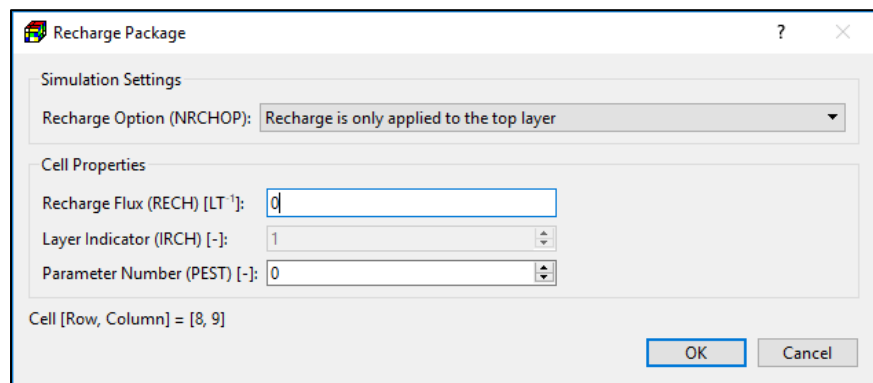

Figure 61. The Recharge Package dialog box
1. **All input methods:** Figure 61 shows the dialog box for specifying cell, vertex, or polygon properties.